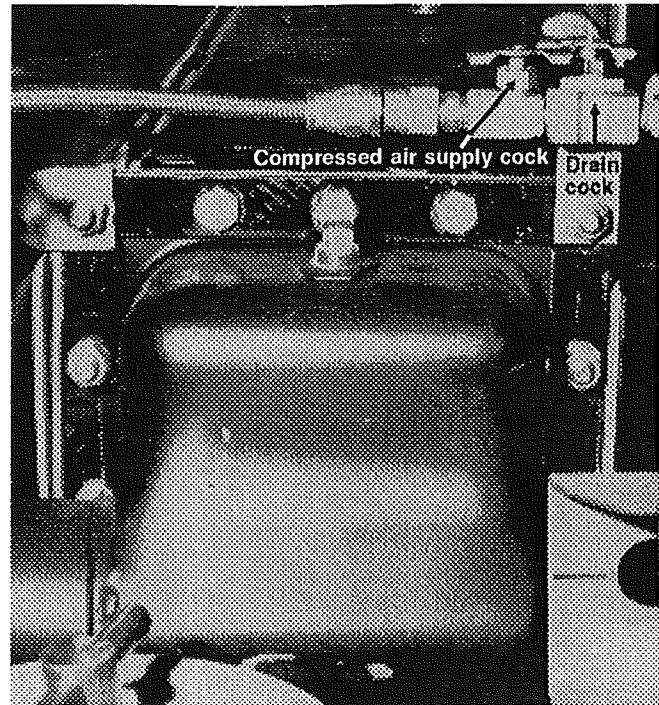

FIG. 18
1. Close the compressed air supply cock of the shutter air cylinder (see fig. 18).